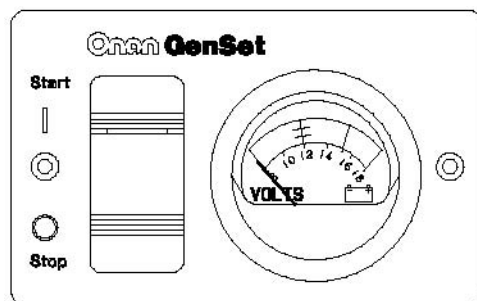

FIGURE 80. REMOTE SWITCH / DC VOLTMETER
- Remote switch with status indicator light and DC voltmeter (Figure 80).